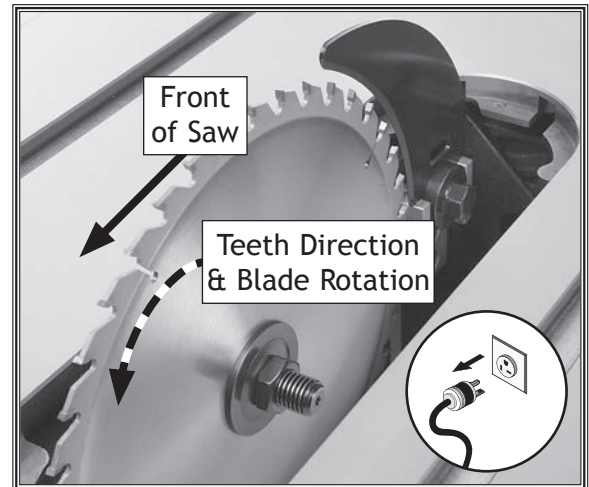

Figure 46. Example of correct blade direction.
5. Slide the blade over the arbor with the teeth facing the front of the saw, as shown in **Figure 46**.